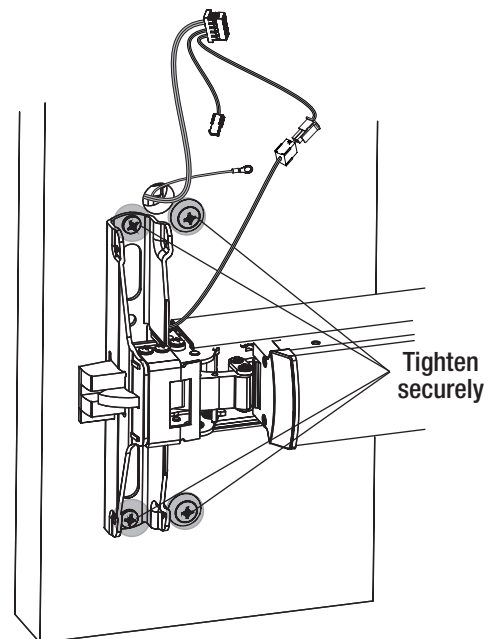

Fig. 5d
- e. Tighten all (4) screws (Fig. 5d).